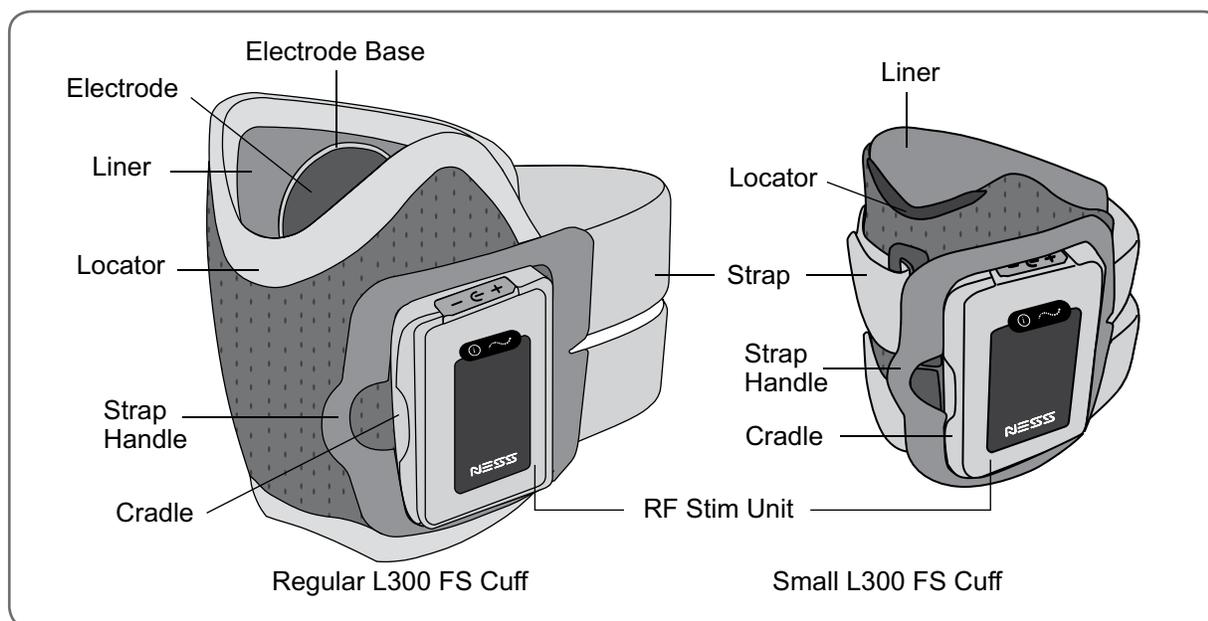

Figure 4-2: Regular L300 FS Cuff and Small L300 FS Cuff.
The L300 FS Cuff features an ergonomically designed locator for accurate placement, a cradle for the RF Stim Unit, and an adjustable elastic strap. See Figure 4-2. The Regular L300 FS Cuff strap is available in three sizes: small (S), medium (M), and large (L). The Small L300 FS Cuff strap is available in two sizes: extra small (XS) and extra extra small (XXS). The electrodes and electrode bases attach to the inner liner of the L300 FS Cuff.